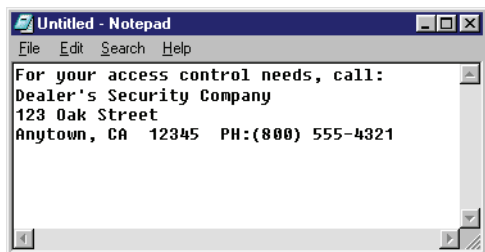

Figure 1-2: Dealer Information in Notepad
1. Open the text editor program (eg. Notepad). Enter the information to be displayed on the About screen in the *Doors* program (see Figure 1-2).
2. From the AutoRun Menu (see Figure 1-2 on page 11 of this section), click on the **Install the Acrobat Reader** link. The installation program begins.
2. From the AutoRun Menu (see Figure 1-2 on page 11 of this section), click on the desired link (Explore the CD-ROM, Locate Technical Documentation, or Locate Marketing Documentation). If you chose the Technical or Marketing Documentation links, a sub-menu appears. Once you have made another selection (or if you select Explore the CD-ROM), the Windows Explorer is automatically opened to the desired location with a list of the available PDF documents.